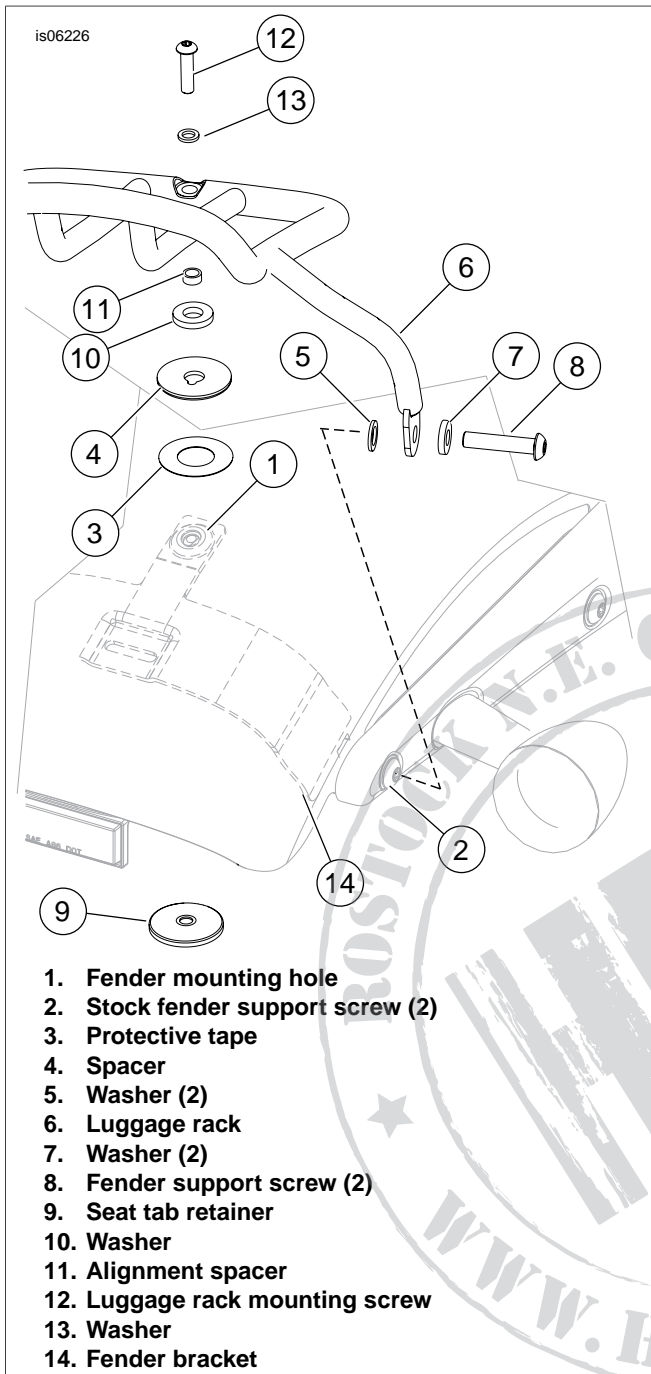

Figure 1. Install Chopped Fender Luggage Rack
1. See Figure 1. Remove stock hardware from the fender mounting hole (1).
2. Remove and discard the stock fender support screws (2).
1. See Figure 1. Remove the adhesive backing from the protective tape (3). Align and install the tape on the fender around the fender mounting hole (1).
2. Loosely install fender support screws (8), washers (7), luggage rack (6) and washer (5).